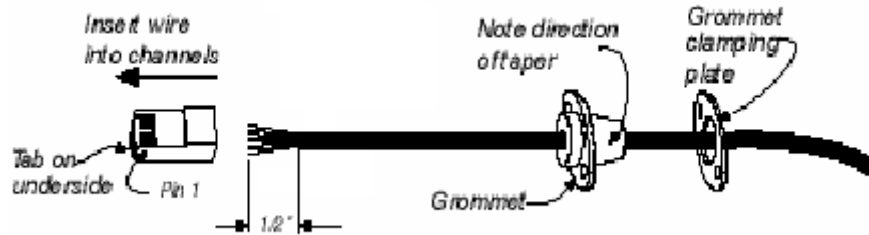

Figure 6-3 Outdoor Transceiver End of the Interconnect Cable with Cable Preparation
- 4) Strip 1/2 inch of insulation off the cable end. Trim the wire ends flat as shown in Figure 6-3.